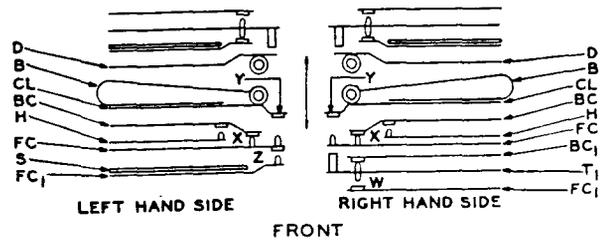

Fig. 3 — 319 Type Key Spring Arrangement
1.22 *Contact Separation* — .012” (Readj. .015”) except contacts at “Y” Fig. 3, approximately .030”.
Exception: Fig. 3 — Approximately 225 grams at contact “X” with lever normal.
1.26 *Contact Sequence*—Fig. 3—.005” (Readj. .006”) between make of “Y” and break of “X,” between break of “X” and make of “Z” and between make of “W” and make of “Z” contacts, lever toward locking position. Also, be-
1.28 *Non-Click* — Fig. 3 — Lever release from operated position shall not open normally closed contacts of opposite side or “X” contacts of same side.